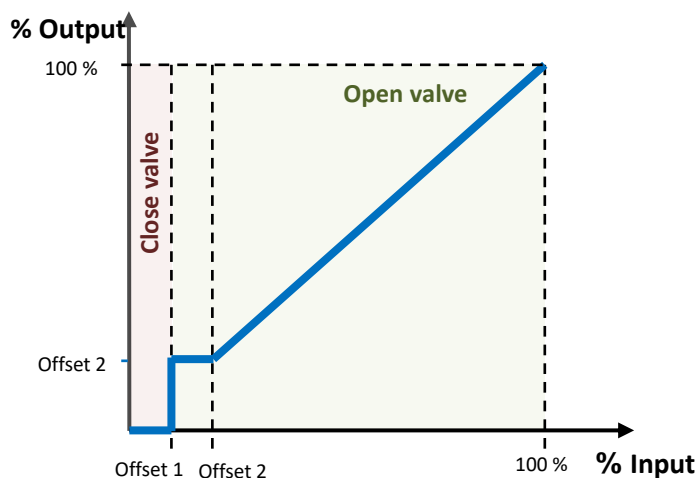

Figure 9 Output percentage value depending on the input setpoint and the offsets.
- The **minimum value of the control variable** that should activate the fan, i.e., the minimum percentage value that will be required to make the actuator actually operate the fan; values under that minimum will be ignored by the actuator. This is called “Offset 1” in Figure 9.
is not able to effectively start motion with voltage values lower than a certain percentage. This is called “Offset 2” in Figure 9.